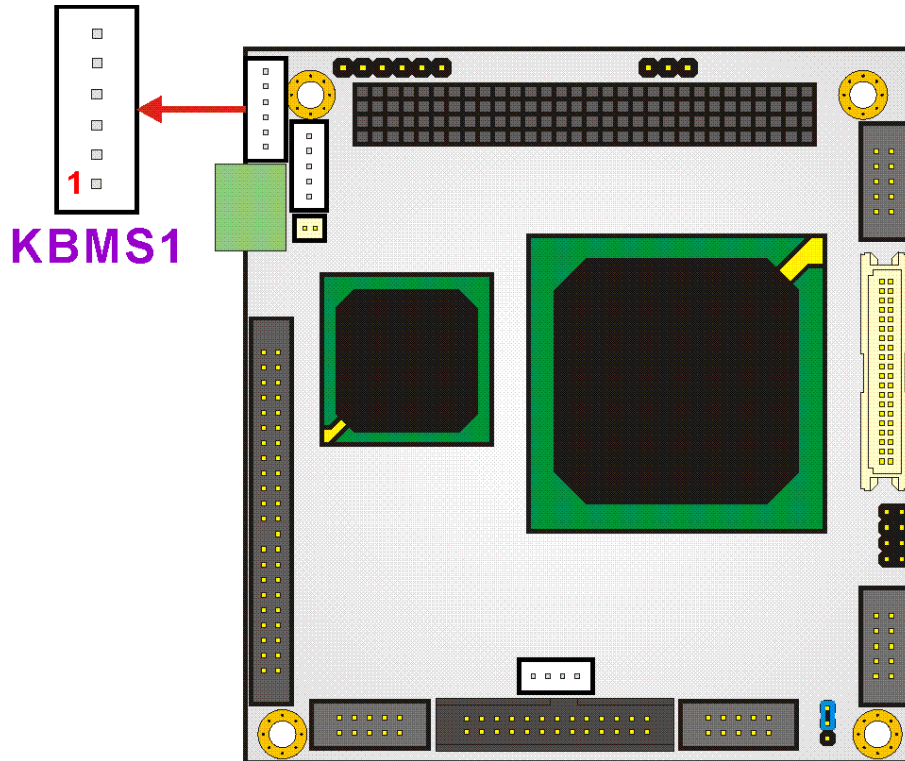

Figure 3-10: Keyboard/Mouse Connector Location
- CN Location: See **Figure 3-10**